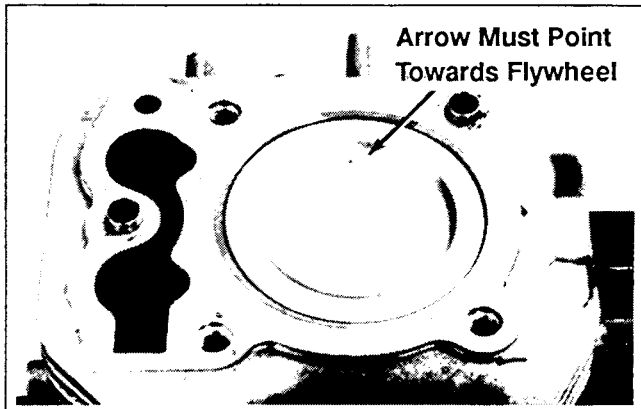

Figure 11-8. Piston Installation Identifier.
3. Orient the “Fly” mark on piston towards the fly-wheel side of crankcase. See Figure 11-8. Gently push the piston/connecting rod into bore. **Do not pound on the piston.**